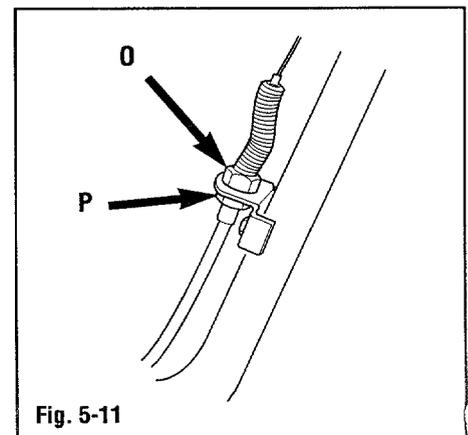

Fig. 5-11
- a. Loosen locking nut (O, Fig. 5-11) on the right cable adjuster several turns.
2. Remove bolt (W, Fig. 5-11) securing the worm gear and support (W) to the unit. Remove the worm gear and support (W).